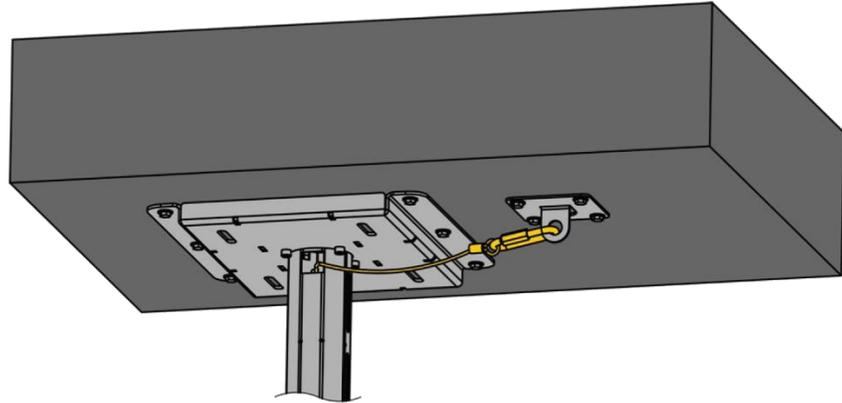

Figure 87:
13A] For concrete ceiling mount: Use a quick link to secure one end of the safety cable ⑫ to the safety anchor ⑦. Conduit the other end of the safety cable ⑫ into the upper tube ② and lower tube ③, as shown in **Figure 87**.